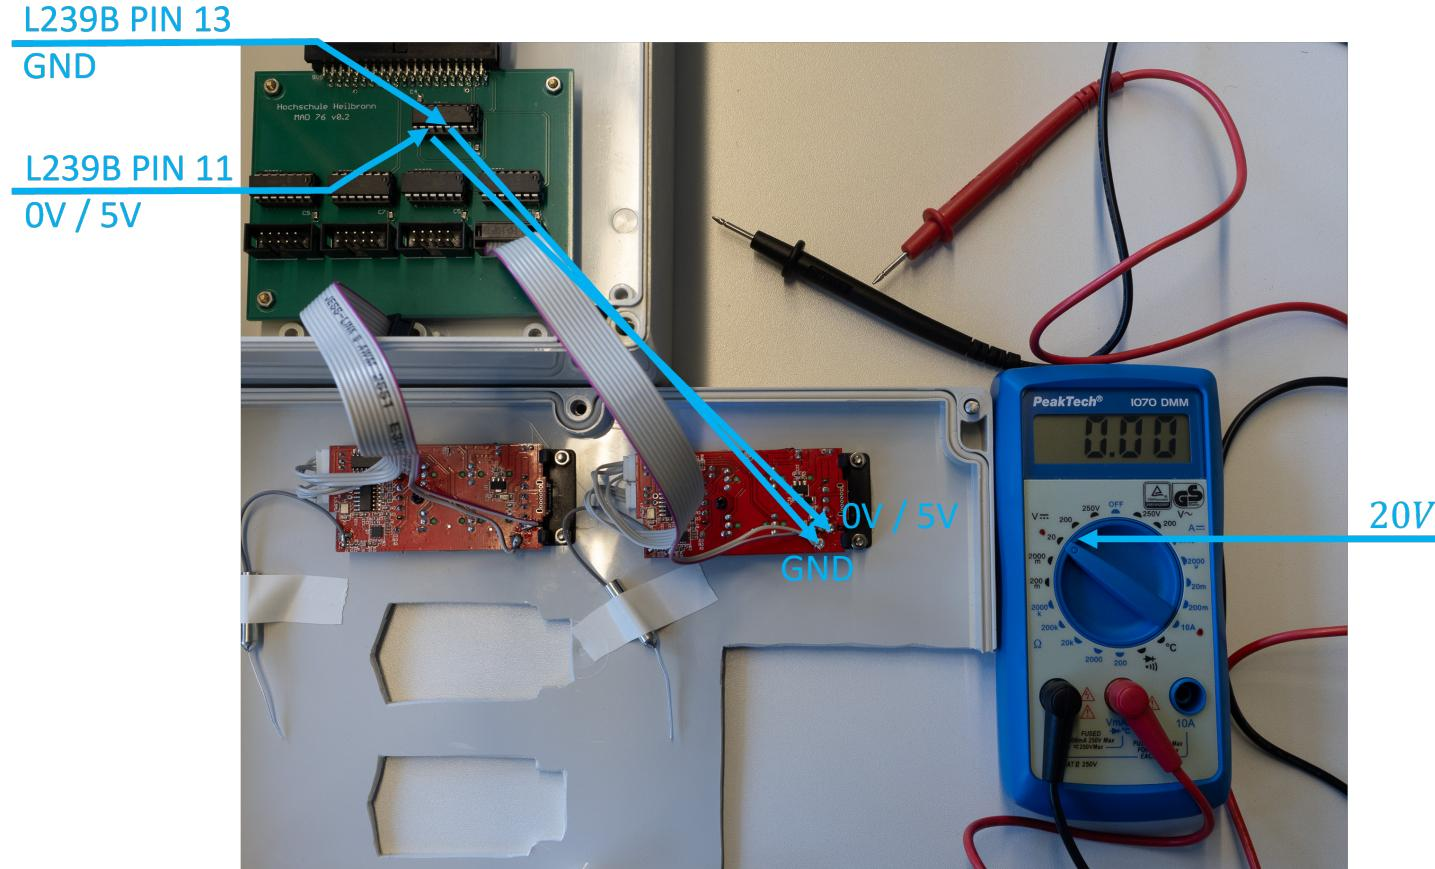

Figure 1: Exercise 2: Measure power supply voltage
E.3.3.2 Measure the voltage at the power supply of RC 1 with a multimeter (see Figure 1)